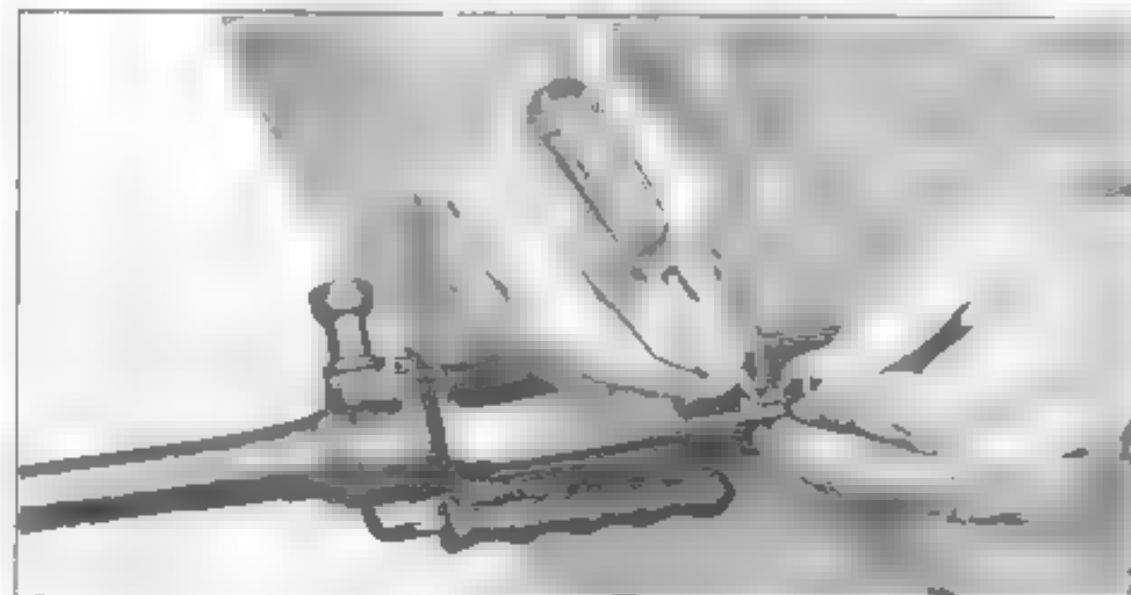

Fig. 83
a. Magazine catch. — Use the blunt screwdriver to compress the magazine catch spring, at the same time pulling the magazine catch (fig. 83).